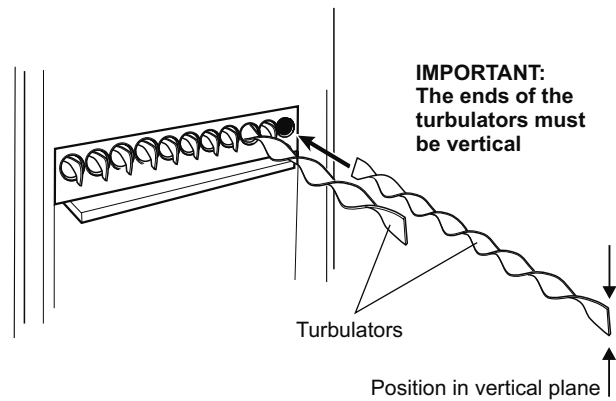

Fig. 22 - Removal/replacement of spiral turbulators
- 7 Pull out the spiral turbulators from the heat exchanger tubes. See Fig. 22.